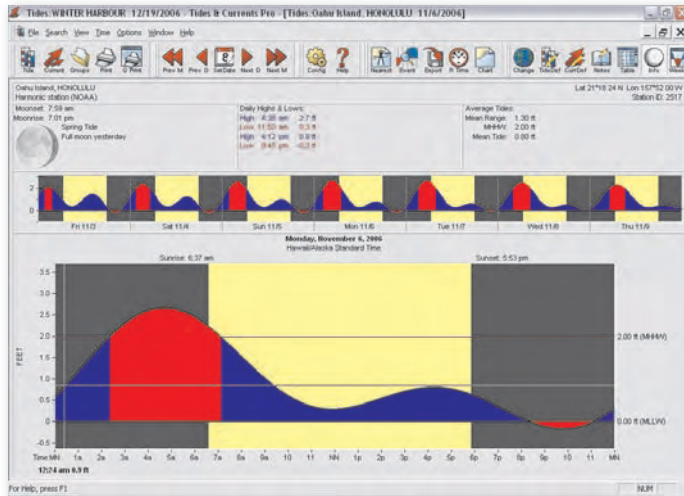

Figure 11.3 - Tides & Currents Graph
4. The Tides & Currents program will open (see **Figure 11.3**) and you should see a graph that covers a 24-hour period. The graph will contain several important pieces of information (more details below).